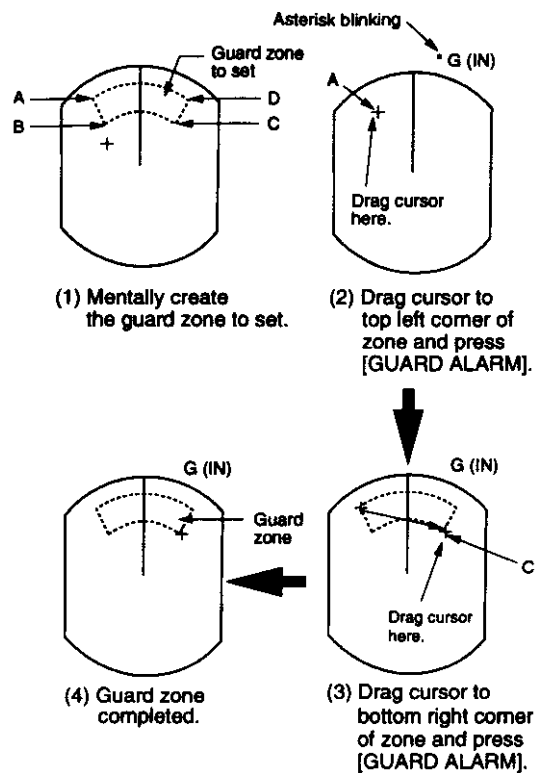

Figure 3-9 How to set the guard zone
1. Mentally create the guard zone you want to set. For example, the guard zone shown in Figure 3-9 (1).
2. Operate the trackball to set the cursor on point A or B. Press the [GUARD ALARM] key. "\*G (IN)" or "\*G (OUT)", with asterisk blinking, appears at the top right-hand corner of the display. See Figure 3-9 (2). (The asterisk indicates the guard zone is partially set.)
3. Operate the trackball to set the cursor on point C or D. See Figure 3-9 (3).
4. Press the [GUARD ALARM] key. The asterisk disappears. See Figure 3-9 (4).